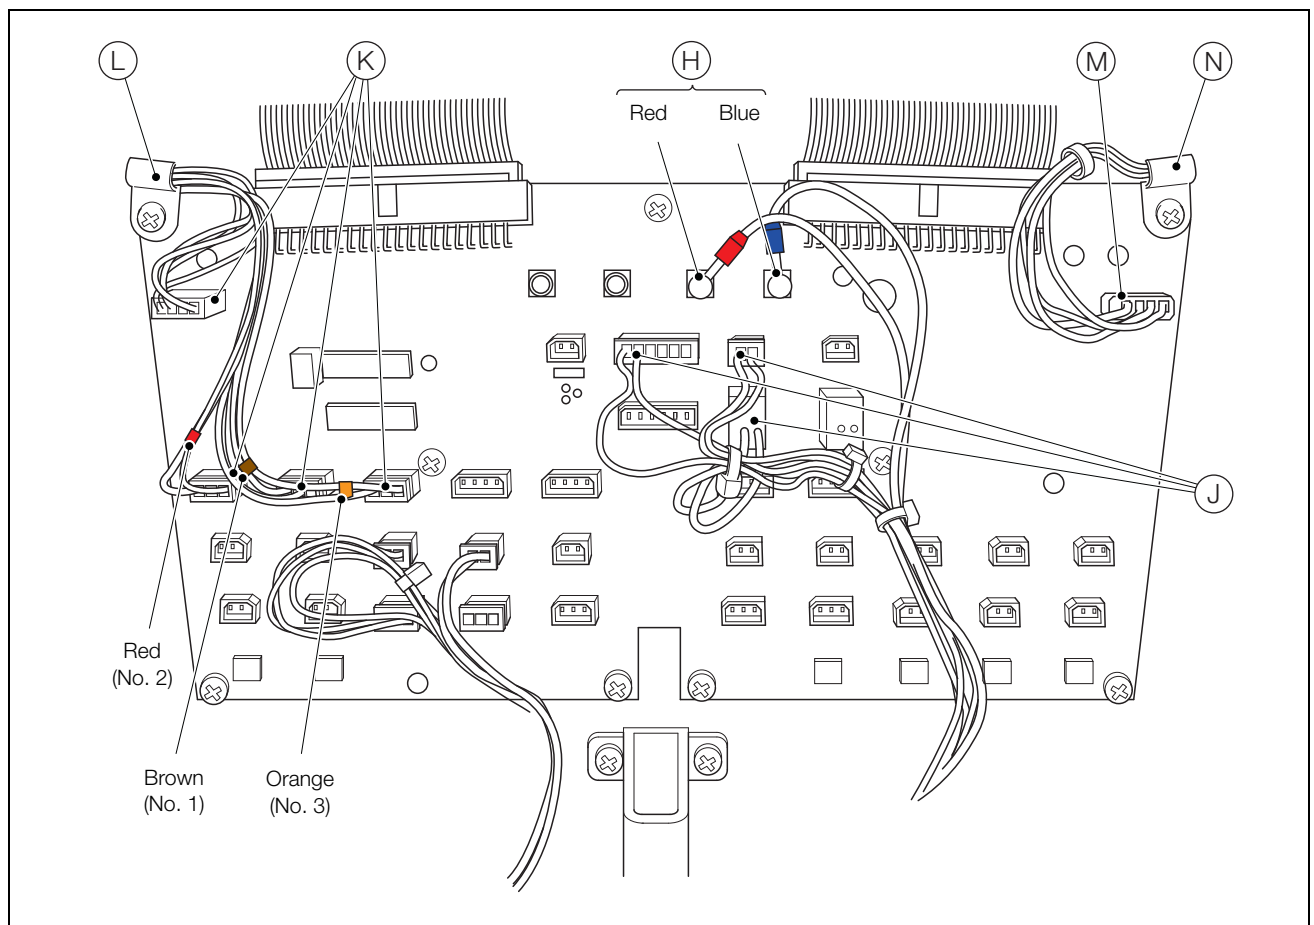

Fig. 4.8 Analytical Section Electrical Connections
2. Referring to Fig. 4.8:
- a. Connect the red-sleeved coaxial connector to the 'MC Reference Diode' and the blue-sleeved coaxial connector to the 'MC Measure Diode' coaxial sockets (H) on the connection board, .
- b. Insert the connectors into the 'Measuring Cuvette', 'Heater PT100' and 'Heater' sockets (J) on the connection board.
- c. Insert the connectors into the 'Sample Motor', 'Wash Solution Valve', 'Zero Solution Valve' and 'Span Solution Valve' sockets (K) on the connection board.
- d. Position the cable loom in the cable clip (L) and tighten the clip securing screw – see Note.
- e. Insert the reagent motor connector into the 'Reagent Motor' socket (M) on the connection board.
- f. Position the cable loom in the cable clip (N) and tighten the clip securing screw – see Note.